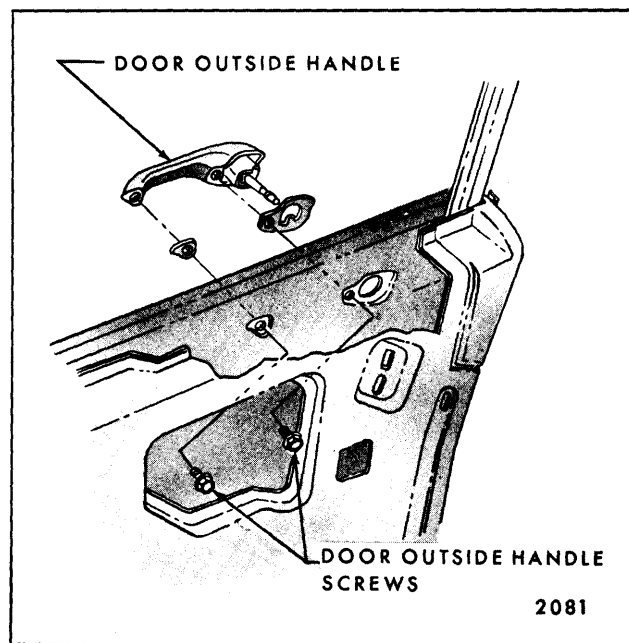
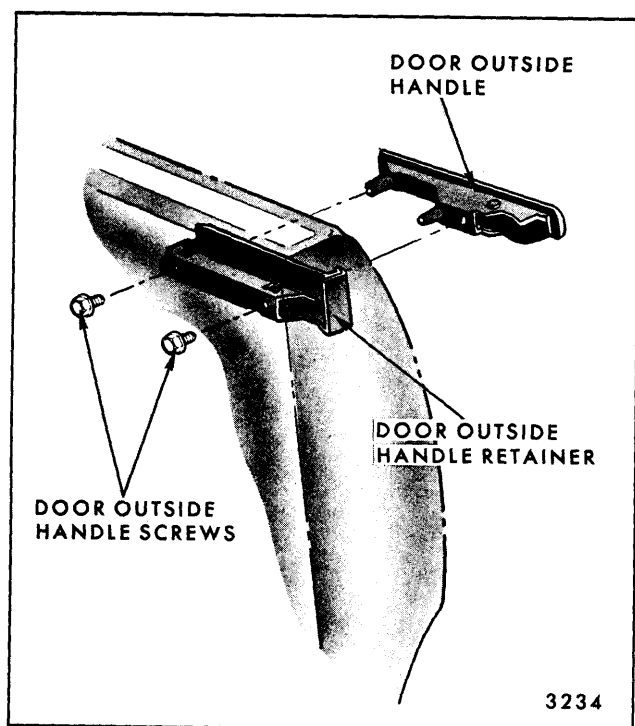

Fig. 6-21—Door Outside Handle Removal - All Styles Except "G" Styles
Fig. 6-20—Door Outside Handle Removal - "G" Styles
1. Raise door window. Remove door trim assembly and detach upper rear corner of inner panel water deflector sufficiently to gain access to door outside handle attaching screws (Refer to Fig. 6-20 for "G" styles and Fig. 6-21 for all other styles).